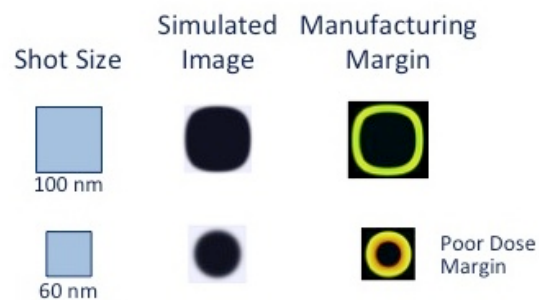

Figure 1. Features smaller than 80nm do not print as intended, even with eBeam, and have poor DM.
Simultaneously, as the sizes of the majority of the shapes on the mask become smaller than 80-nm, a new problem has emerged: shapes output by OPC no longer faithfully reproduce on the mask. Due to the radius of the combined short-range blur from the eBeam used to write masks plus the mask-process effects from develop, bake, and etch processes, a 60-nm square feature, as an example, does not print as a square, but as a smaller-sized circle with poor dose margin (DM), as shown in Figure 1 (below). As the industry ramps up for the 14-nm process node and below, this becomes an issue for main features as well. Intervention is required to correct the inaccuracy and the poor tolerance to manufacturing variation of smaller features.